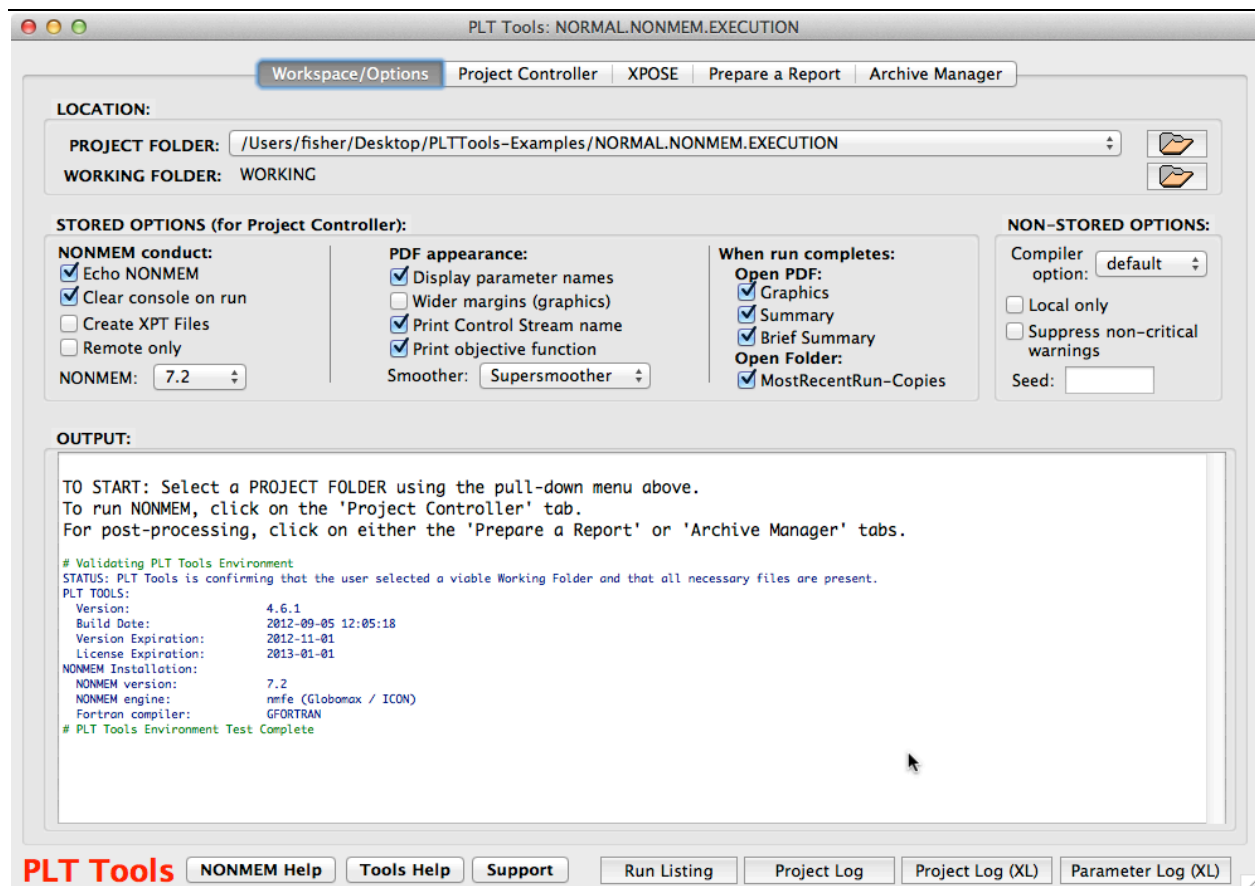
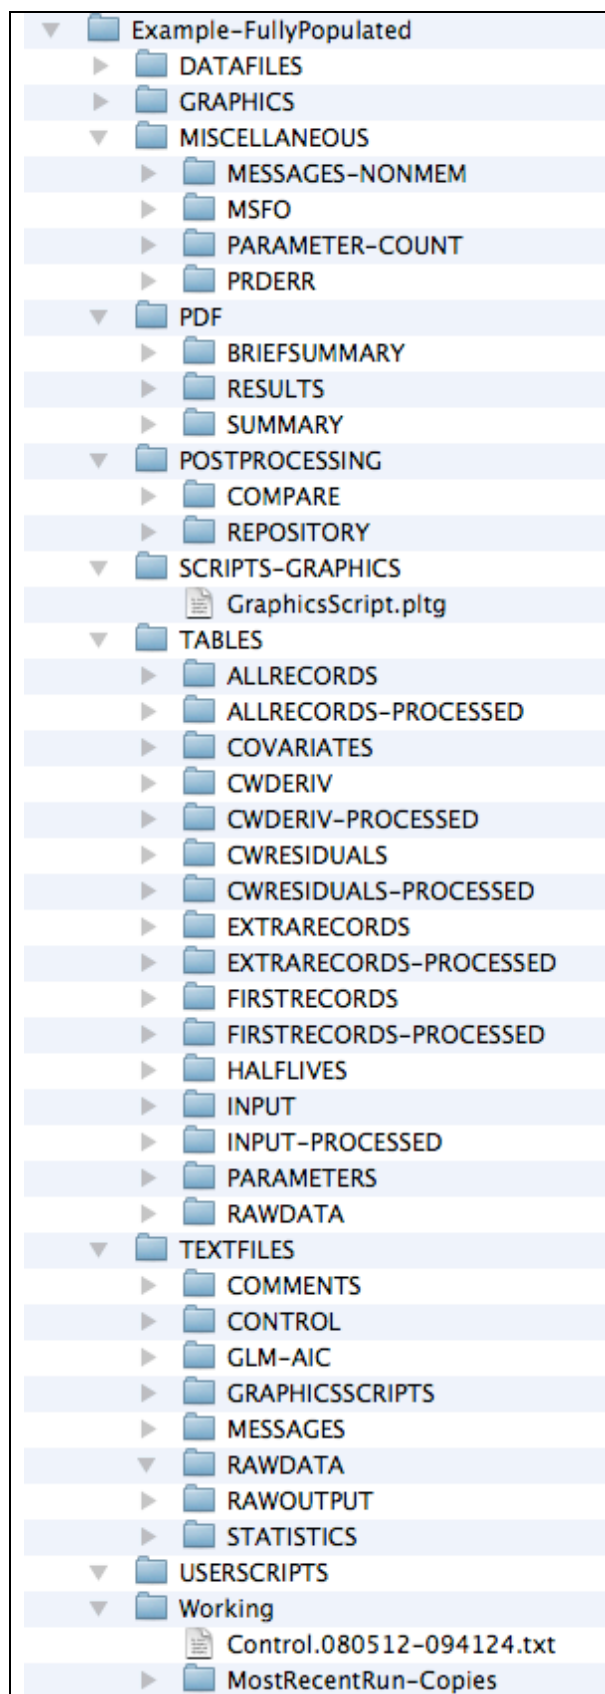

Figure 13. The Project Folder has been selected.
Figure 14. The file structure created by the NONMEM Controller is shown. The display from OS X is displayed.
The user must create these folders *before* selecting them in **PLT Tools**. Once the folder are created, in the Workspace / Options tab, click on the **Select** button. Navigate to the Working Folder. Then press “Select”. Once **PLT Tools** confirms that the Working Folder is named appropriately (*i.e.*, it contains “work”, case-insensitive), the file structure shown in **Figure 14** is
3. In the Workspace / Options tab in **PLT Tools**, use the pull-down menu to select the Project Folder. Once a Project Folder has been selected, it is added to the menu to facilitate future selections (the menu can be cleared or edited by the user). If the Working Folder (and its enclosing Project Folder) is found (**Figure 13**), **PLT Tools** will display its full path; in addition, all necessary folders will be created (**Figure 14**). If the Working Folder is not found, an error message will be displayed.